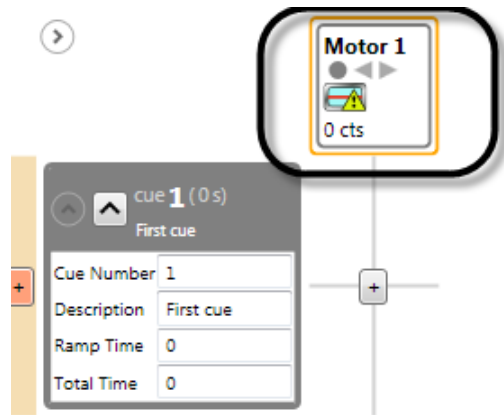

Figure 27
2. Select the motor or FX you wish to connect to by clicking on it in the **Cue Grid**. An orange highlight will appear around the selected motor (Figure 27).